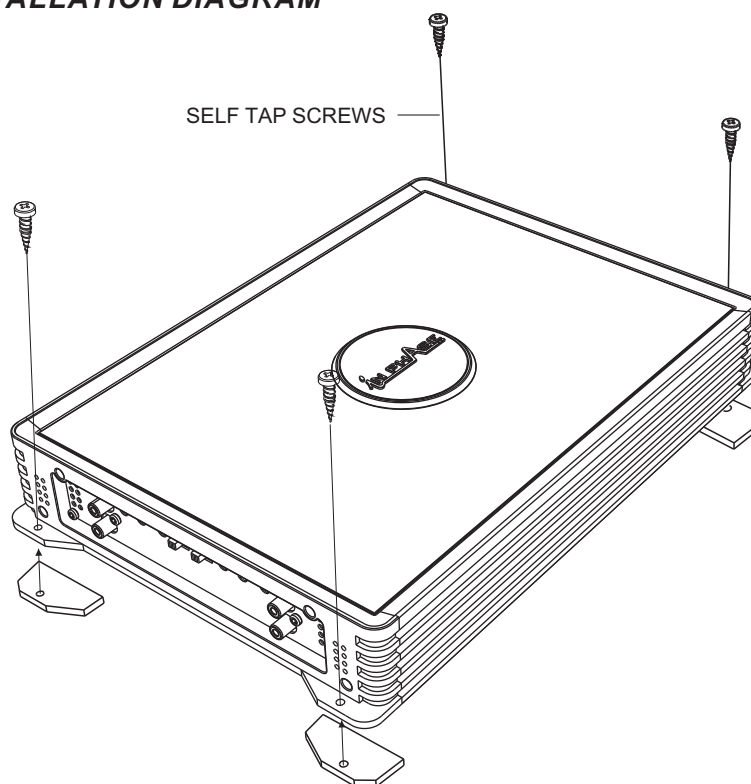

FIG. 1
1. After reading precaution, decide where you are going to install the unit. Also, see Fig.1.